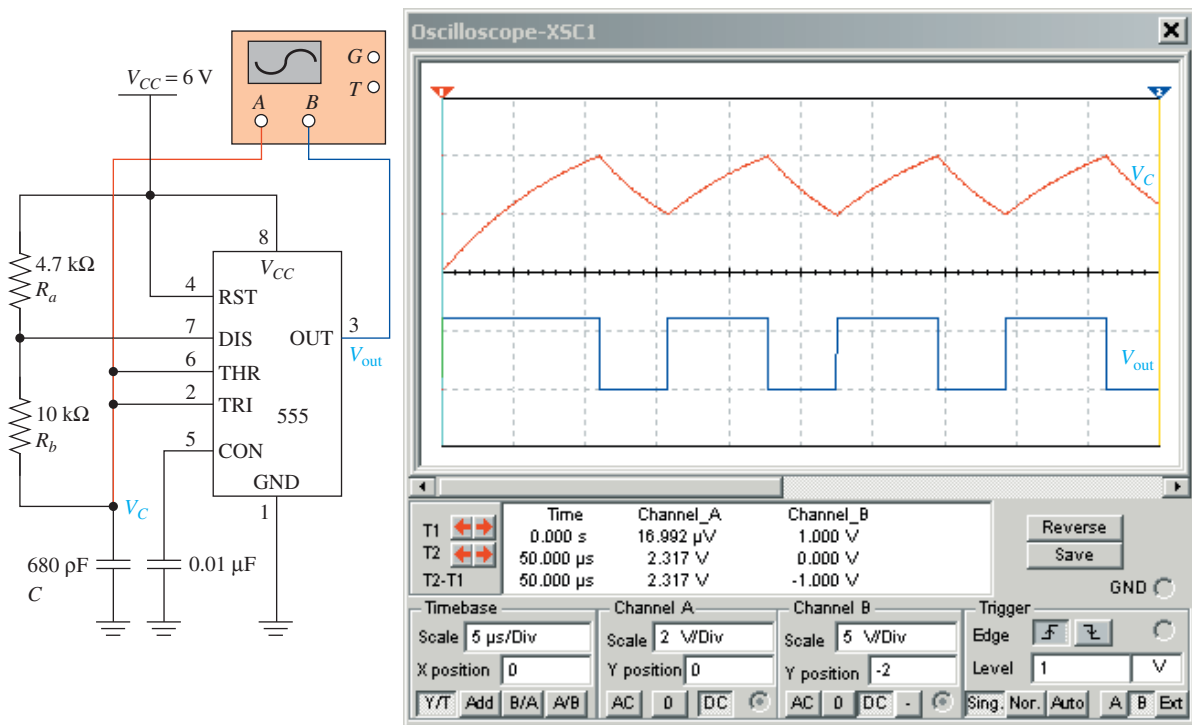

Figure 23 Using MultiSIM[®] to simulate the timing waveforms of a 555 astable multivibrator.
Figure 23 shows a MultiSIM[®] simulation of a 555 astable multivibrator. It is set up to duplicate Example 10. The oscilloscope is used to display the waveforms at V_C (red) and V_{out} (blue). The Y position on the V_{out} waveform (blue, channel B) is set to -2 divisions to lower it away from the V_C waveform.
- (a) Load the file *fig23* from the text companion website. Double-click the oscilloscope to expand its size, and then turn on the power switch. Turn off the power after the single sweep is complete. Drag vertical cursors #1 and #2 to measure T_{LO} and T_{HI} of the V_{out} waveform. Your values should match those shown in Example 10.